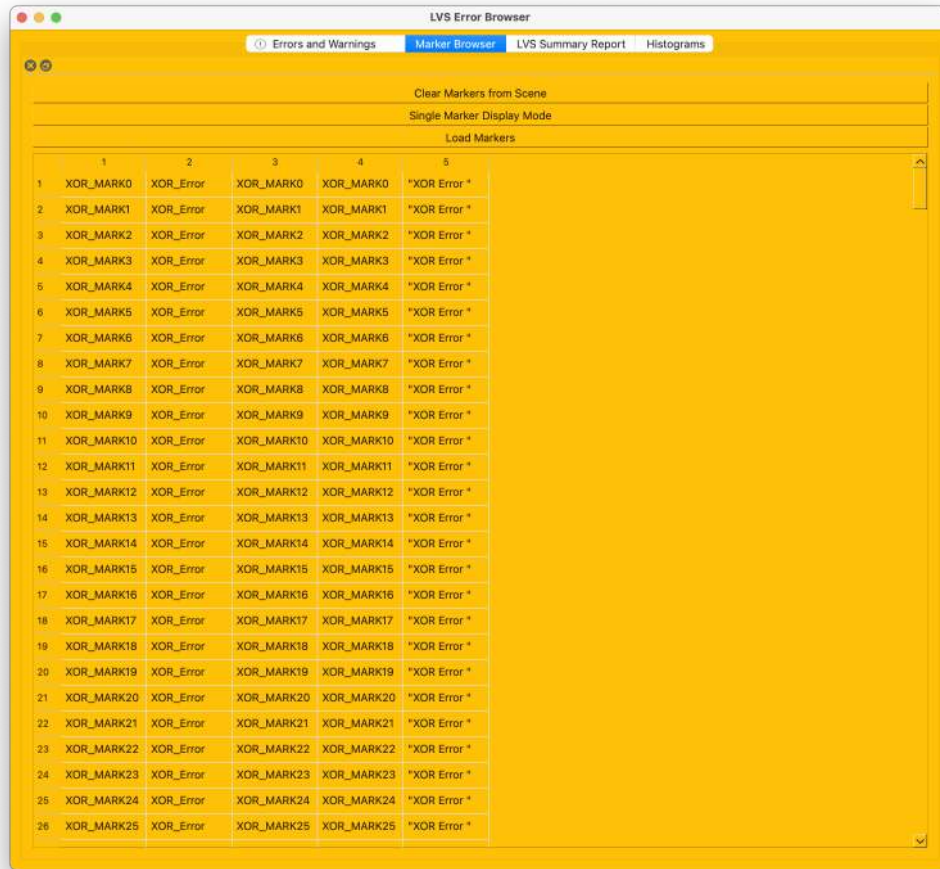

Figure 81: **gcd1_XOR002** marker browser: catalog of XOR_MARK entries (non-overlapping POLY regions).
- **Marker browser** (Fig. 81): shows a table of *XOR.MARK** items, each representing a non-overlapping polygon fragment. The count reflects how many distinct regions of difference exist after Boolean XOR.